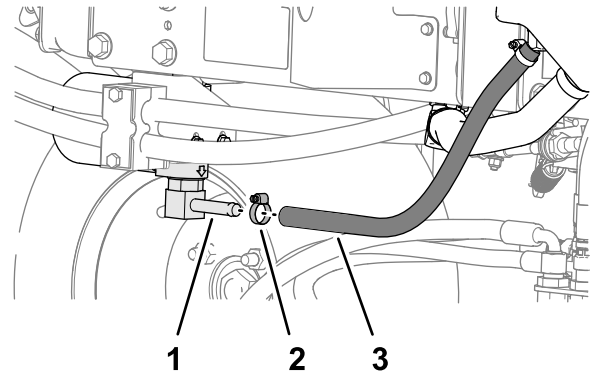
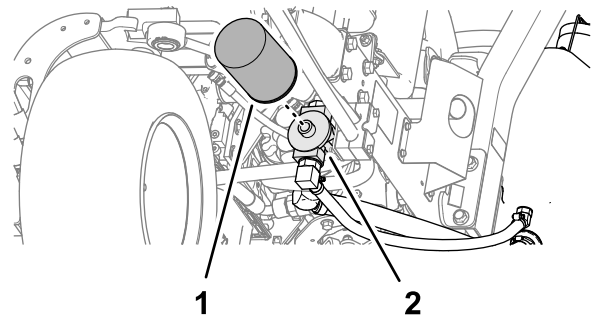

Figure 85
Figure 86
2. Disconnect the hydraulic hose (Figure 85) or remove the hydraulic filter (Figure 86) and drain the hydraulic fluid into a drain pan.